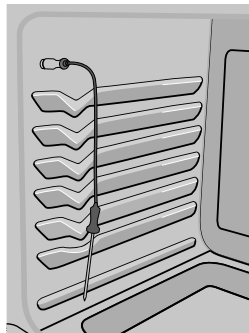

Fig. 1
3. Plug the meat probe into the probe receptacle located on the left front oven cavity side (See Fig. 1 for location of probe receptacle).